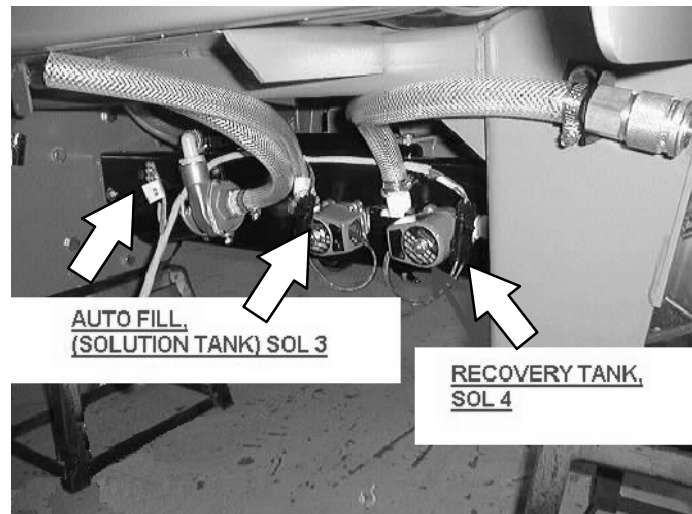

FIG. 12
8. Connect the solution pump harness and the solenoid valve harness to the main electrical harness. (Refer to FIG. 12)